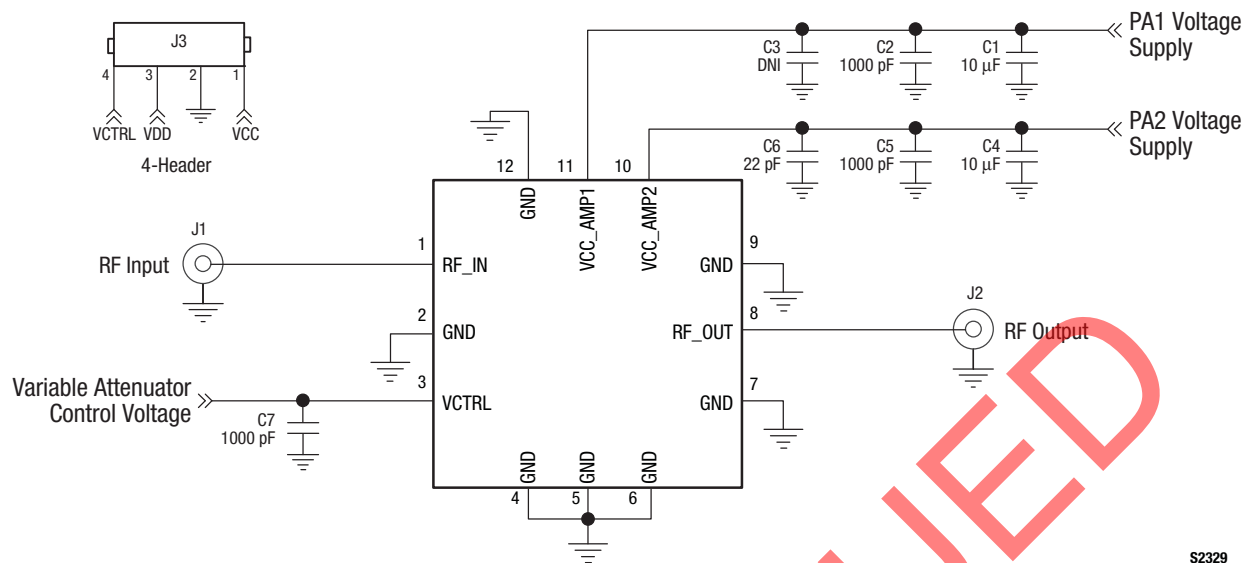

Figure 20. SKY65187-11 Evaluation Board Schematic
The Skyworks SKY65187-11 Evaluation Board is used to test the performance of the SKY65187-11 VGA. An Evaluation Board schematic diagram is provided in Figure 20. An assembly drawing for the Evaluation Board is shown in Figure 21 and the layer detail is provided in Figure 22. The layer detail physical characteristics are noted in Figure 23.
4. It is recommended that the layout for the VCC_AMP1 and VCC_AMP2 signals follow what is shown in Figure 21. The VCC_AMP1 and VCC_AMP2 traces can be tied together to share the same power supply. The connecting node should not be placed close to the package pins. The connecting node should be connected closer to components C1 and C4 (see Figure 20). This is to provide isolation between VCC_AMP1 and VCC_AMP2.